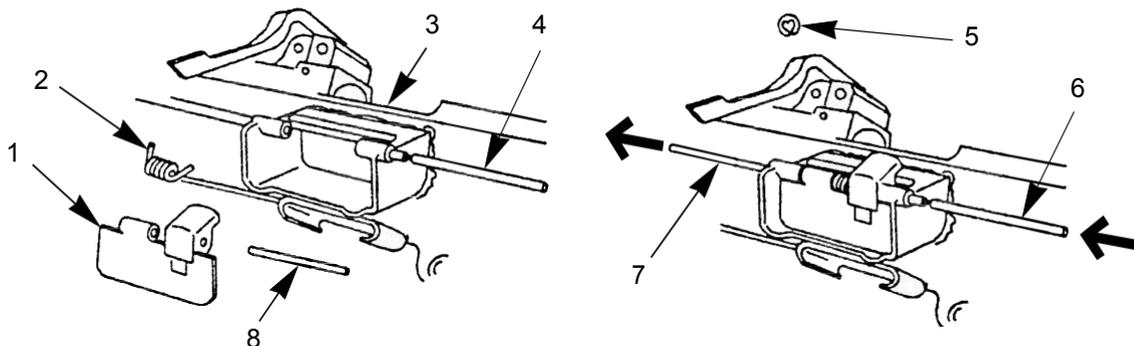

Figure 27. Magazine Well Assembly.
1. Start notched end of grooved headless pin (Figure 27, Item 4) into rear hinge hole of magazine well on receiver assembly (Figure 27, Item 3).
2. Place torsion spring (Figure 27, Item 2) between hinges of magazine cover (Figure 27, Item 1), with left leg of torsion spring (Figure 27, Item 2) inside magazine cover (Figure 27, Item 1). Push aligning pin (Figure 27, Item 7) through hinges of magazine cover (Figure 27, Item 1) and torsion spring (Figure 27, Item 2) until they are flush.
3. Insert this temporary assembly between hinges of magazine well on receiver assembly (Figure 27, Item 3) with other leg of torsion spring (Figure 27, Item 2) inside magazine well. Push in headless pin (Figure 27, Item 6), forcing out aligning pin (Figure 27, Item 7). Align notch in grooved headless pin (Figure 27, Item 6) with space between front hinges and install new retaining clip (Figure 27, Item 5) into notch of grooved headless pin (Figure 27, Item 6).